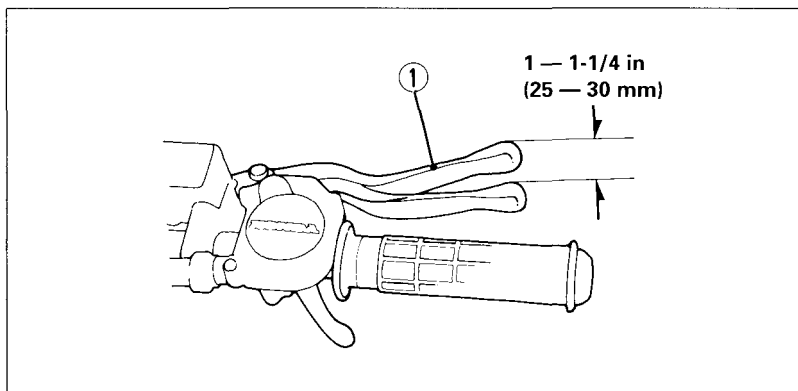

Fig. 4-23
1. Measure the distance the brake lever (Fig. 4-23) moves before the brakes start to take hold. Free play, measured at the tip of the front brake lever (1) should be within 1—1-1/4 in (25—30 mm).